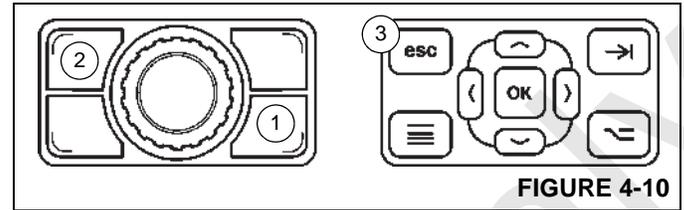

FIGURE 4-10
- Press the Screen Toggle Button (1, Figure 4-10) at the Jog Dial to select the ODM screen control, then press the Escape Button (2).
- Press the Escape Button (3, Figure 4-10) on the Navigation Control Pad at the ODM.